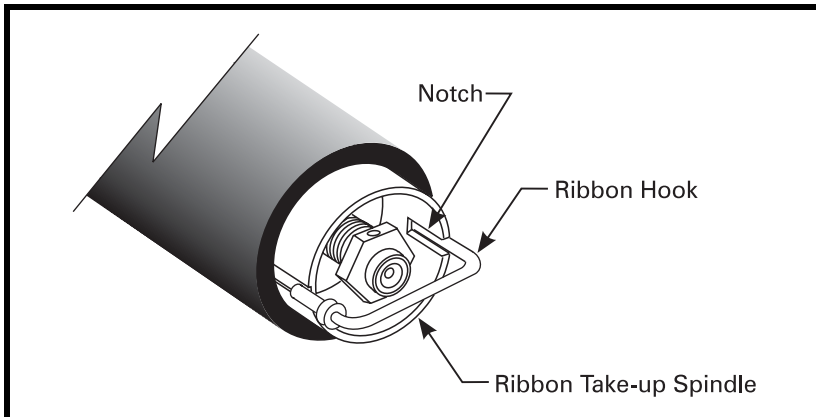

Figure 24. Ribbon Hook Placement
6. Before wrapping the ribbon around the ribbon take-up spindle, ensure the ribbon hook is placed correctly. The ribbon hook fits snugly in the notch (see Figure 24).